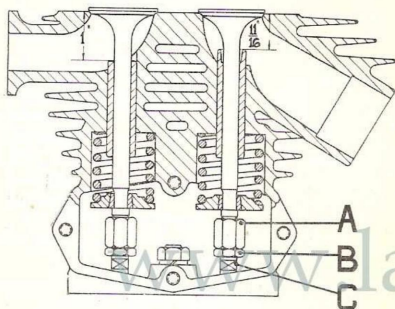

Fig. 3
S.V. Models. The clearance between the tappet and the valve should be checked when the engine is cold. The correct clearance is .004in. for the inlet valve and .006in. for the exhaust valve. Remove the tappet cover and with a spanner on *A* (Fig. 3) hold the tappet head and unlock *B* by turning with a spanner to the left. Screw tappet head *A* up or down to obtain the required clearance, at the same time holding *C* rigid with another spanner. Now lock *B* against *A* and finally check the clearance.